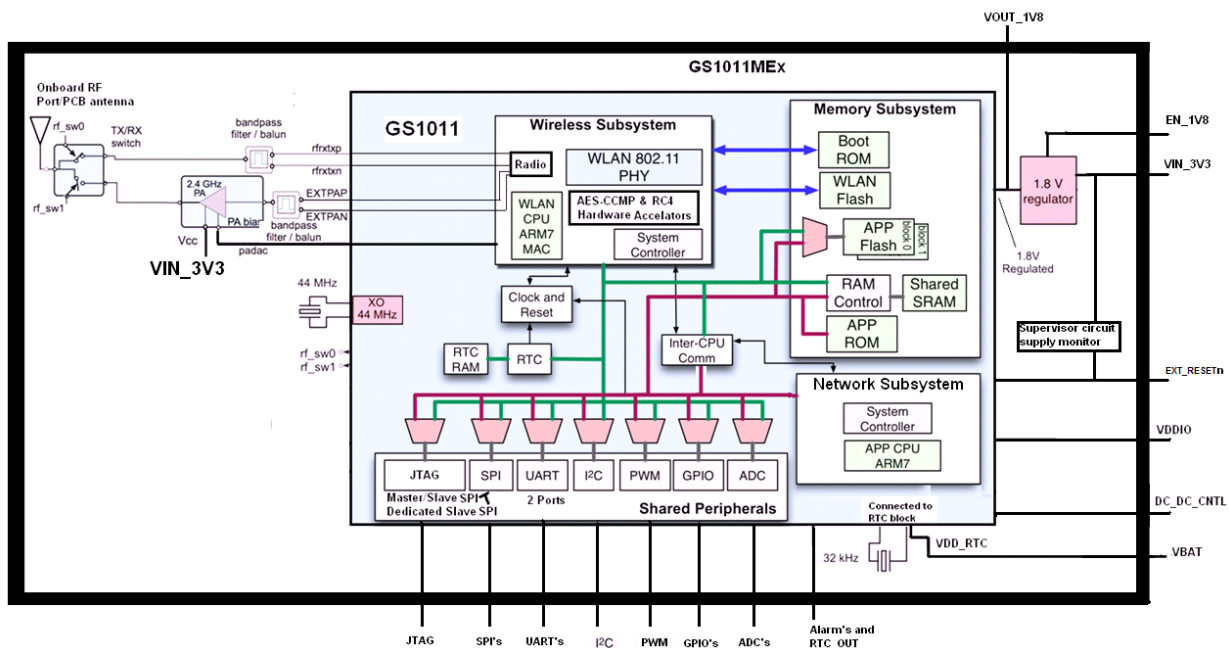

Figure 2-2: GS1011Mxx Block Diagram
- The extended range module option has a capability of +18dBm output power at the antenna connector (see Figure 2-2).